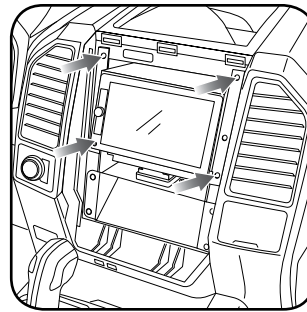

Fig. 1.0
- Insert the radio into the dash and secure the metal brackets with (4) 7mm bolts. (Fig. 1.0)